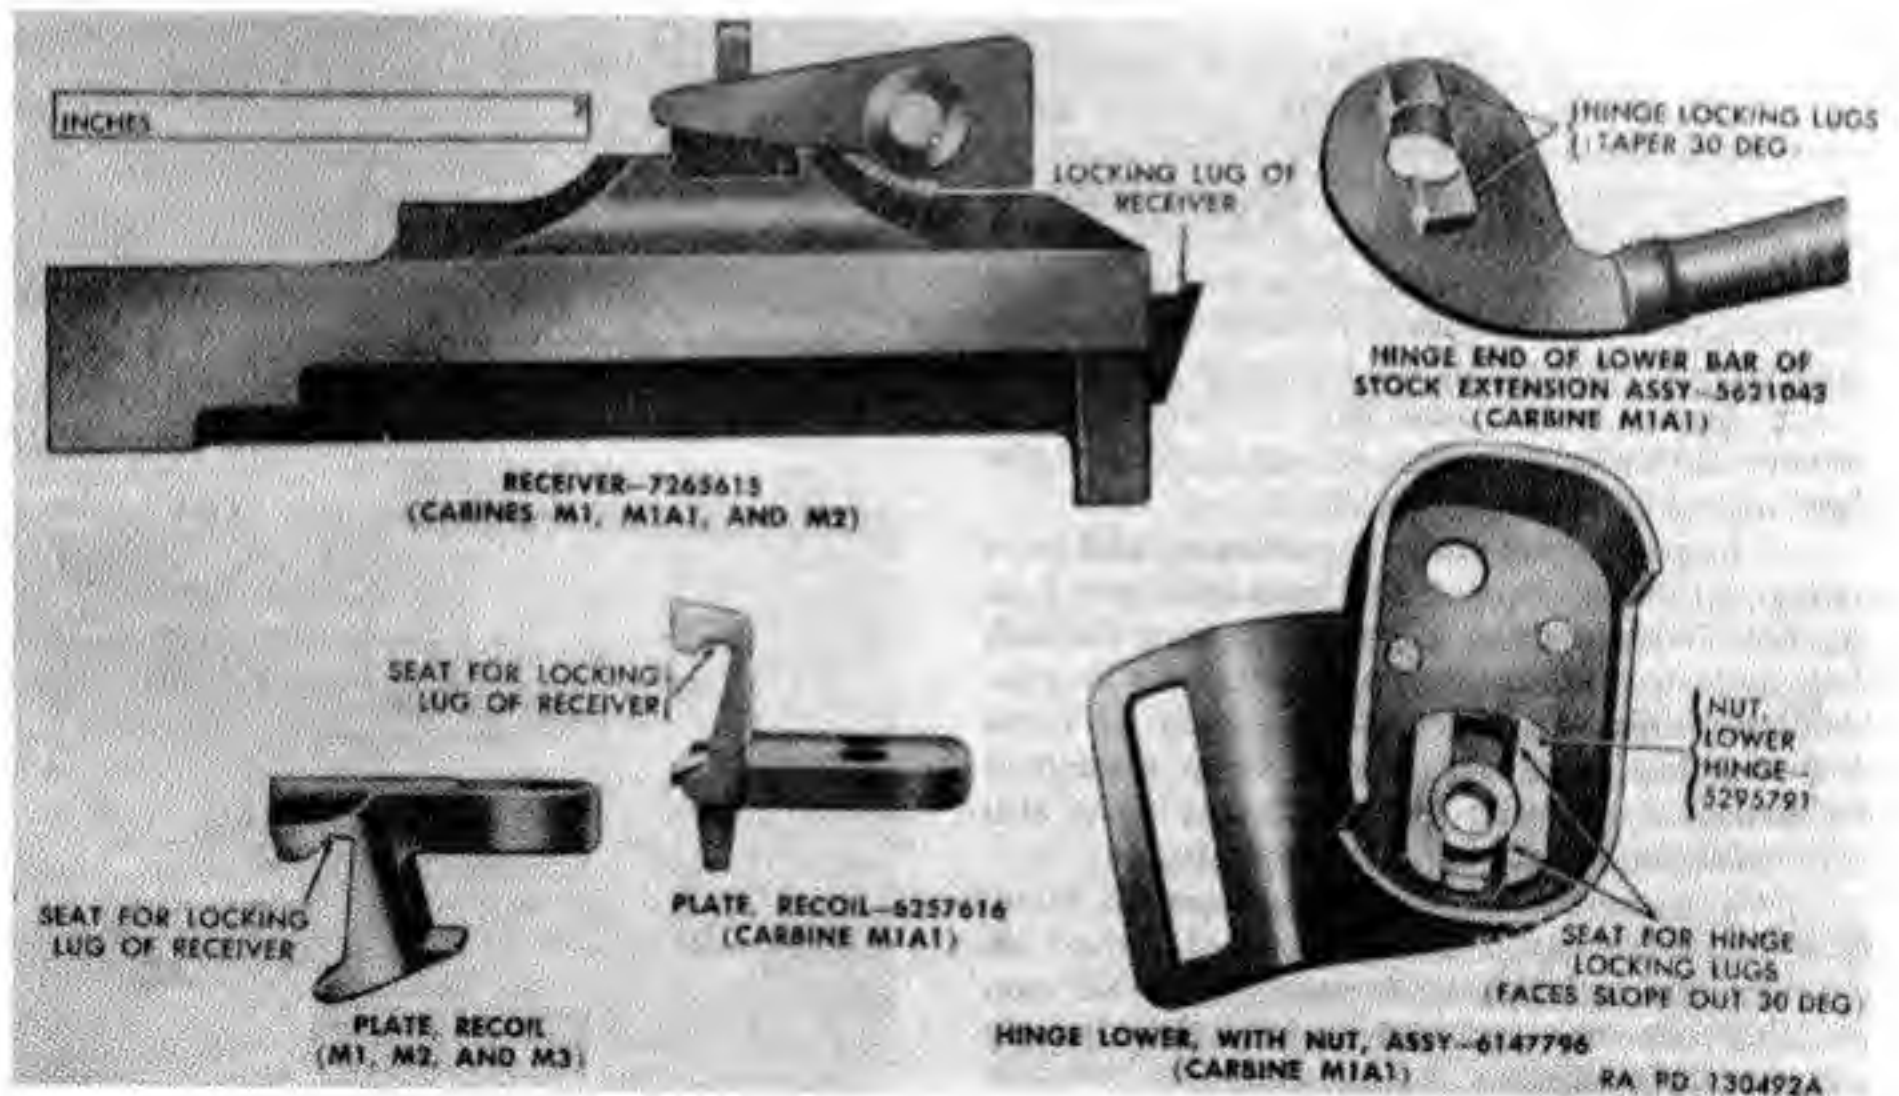

Figure 104. Important wearing surfaces.
e. Recoil Plate. Check to assure that recoil plate is free from burrs, excessive wear (Fig. 104) and rust, and that it is properly bedded in stock. Where recoil plate is bedded so deeply in stock that it interferes with proper alignment of action, the stock must be rejected. The recoil plate screw escutcheon should not turn in the stock, have burrs, or worn threads. The screw should be tightened firmly.
f. Inspect receiver locking lug seat in recoil plate for wear and burrs (Fig. 104). When assembling, the locking lug on receiver should cam smoothly into the seat and be held there snugly without play or shake.
i. Inspect locking nut for looseness in lower hinge shell. Inspect shell for deformation. Inspect sling eyelet for looseness on hinge shell (Fig. 104). (Nut is staked or spot-welded in shell and eyelet spot-welded to shell.) Check locking slot in nut for wear and burrs (angle of slot face is 30 degrees). Inspect lower hinge screw for wear and inspect threads in grip for stripping.
j. Inspect hinge on upper bar for deformation and cracked welding and lock on corresponding end of lower bar for deformation, cracked welding, and worn locking lug (Fig. 104). The proper mating of lock and nut determine the rigidity of the stock extension when extended or folded. Angle of lock faces should correspond to that of the nut. Wear of lock or nut will cause looseness and improper locking.